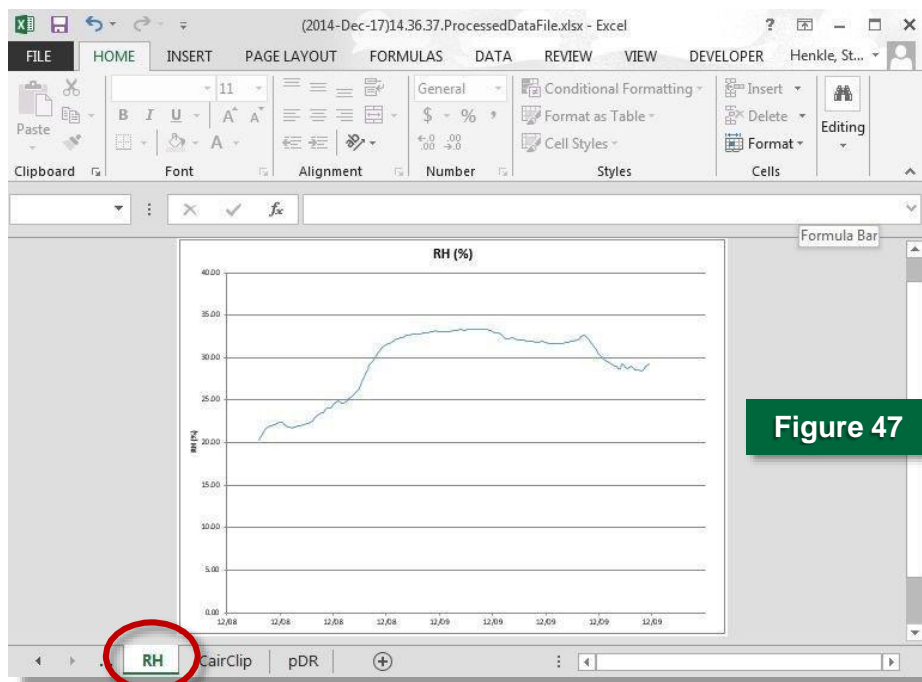

Figure 47
- ❖ The last four tabs—**Temperature**, **RH**, **CairClip**, and **pDR**—contain full-page graphs of the data from each sensor. As an example, the graphed data from the RH sensor is shown in Figure 47.